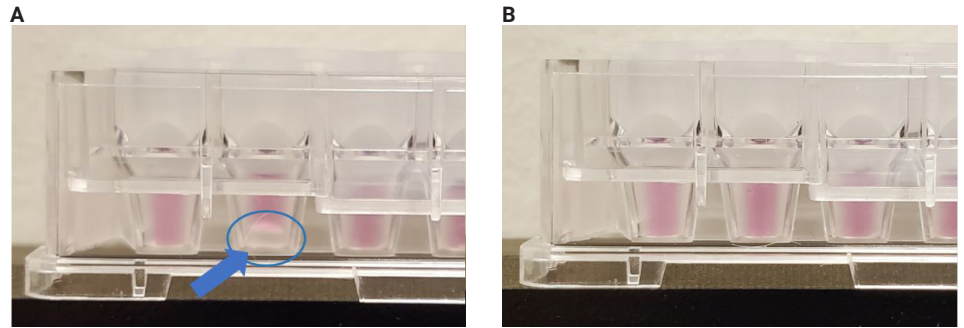

Figure 5. (A) (Before) A bubble is present at the bottom of the notated well. (B) (After) The bubble was released during centrifugation.
6. Add 30 μ L assay media (without cells) to wells A and H – these are background correction wells. Upon adding cells or media to the plate, it is possible that bubbles may form at the bottom of the well (Figure 5). These bubbles will likely be removed upon centrifugation.